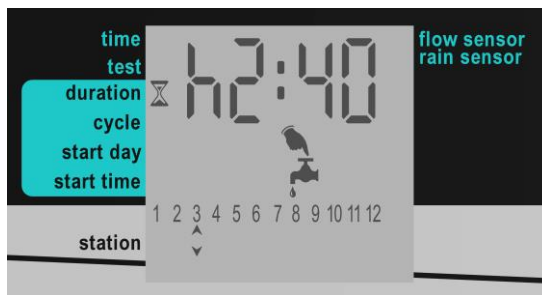

Figure 18: Duration Screen Example
1. Press **↶** until the Duration screen is displayed (Figure 18).
In Figure 18, the duration set is for 2 hours and 40 minutes for station 3. Duration of 0:00 sets the station to never open its valves (and therefore the sequence skips to the next station immediately).